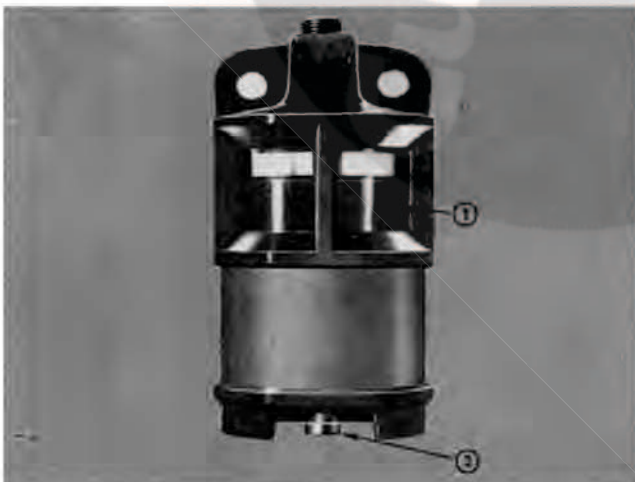

Fig. 2-5, (CGS-20). Air inlet restriction indicator
A mechanical restriction indicator is available to indicate excessive air restriction through a dry-type air cleaner. This instrument can be mounted in the air cleaner outlet or on the vehicle instrument panel. The red flag (1, Fig. 2-5) in the window gradually rises as the cartridge loads with dirt. After changing or replacing the cartridge, reset the indicator by pushing the reset button (2).